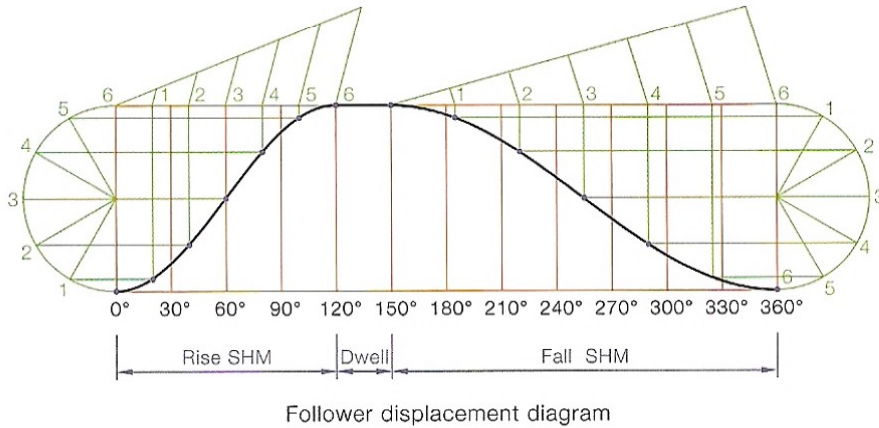

Fig. 17.113
- (1) Draw a semicircle to match the rise that is required for the follower. This semicircle is usually placed at the end of the follower displacement diagram.
- (2) Divide the semicircle into equal segments, usually six.
- (3) Divide the length of rotation it takes for the full movement into the same number of equal parts.
- (4) Plot the points as shown in Fig. 17.113.